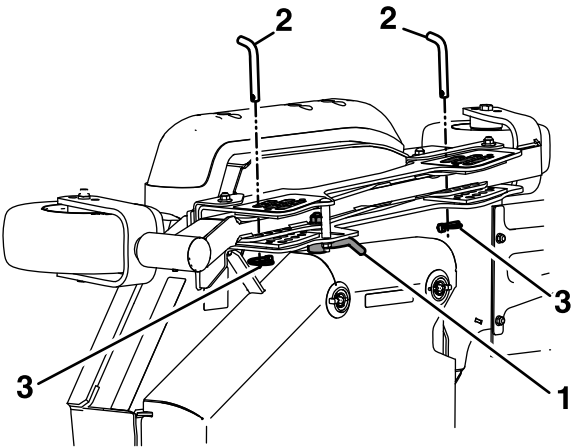

Figure 27
- B. Unlock the cam locks located on the height-of-cut channel on the wing deck (Figure 27).
- D. Move the wing deck to the appropriate height and install the height-of-cut pins and lynch pins (Figure 27).